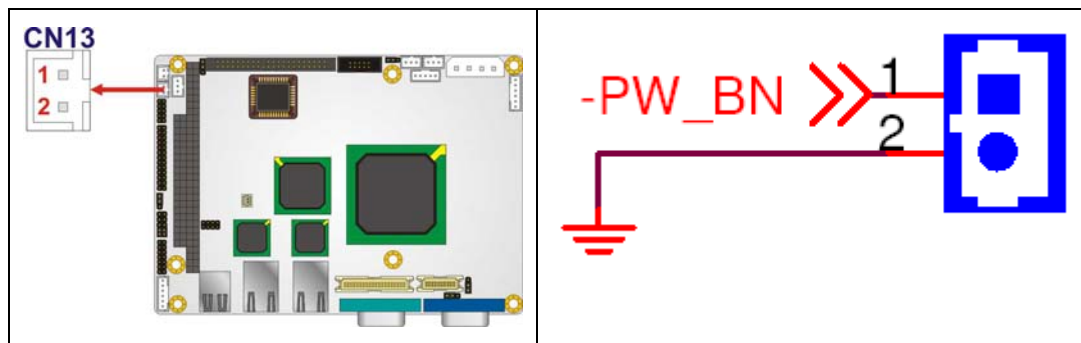

Figure 4-3: ATX Power Button Connector Location
- CN Location:** See **Figure 4-3**